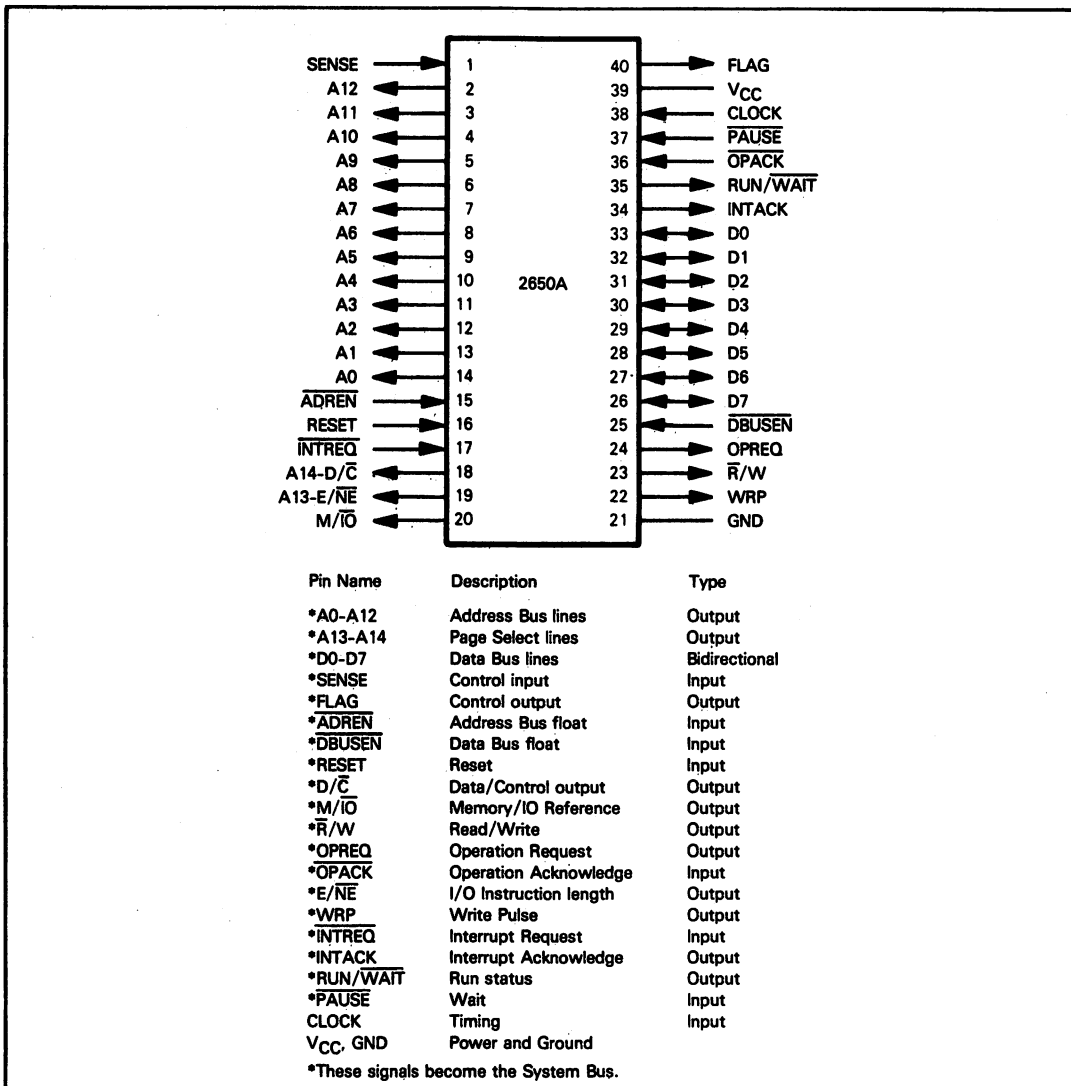

Figure 11-2. 2650A CPU Signals and Pin Assignments
**The 2650A CPU pins and signals are illustrated in Figure 11-2. A description of these signals will highlight the underlying philosophy of the 2650A chip design: that this device can be used with standard off-the-shelf TTL logic, rather than requiring a family of support devices. There are applications where the Signetics philosophy is viable and will work; there are other applications where the specialized devices provided by Signetics and other microcomputer manufacturers cannot be reproduced at equivalently low cost.**